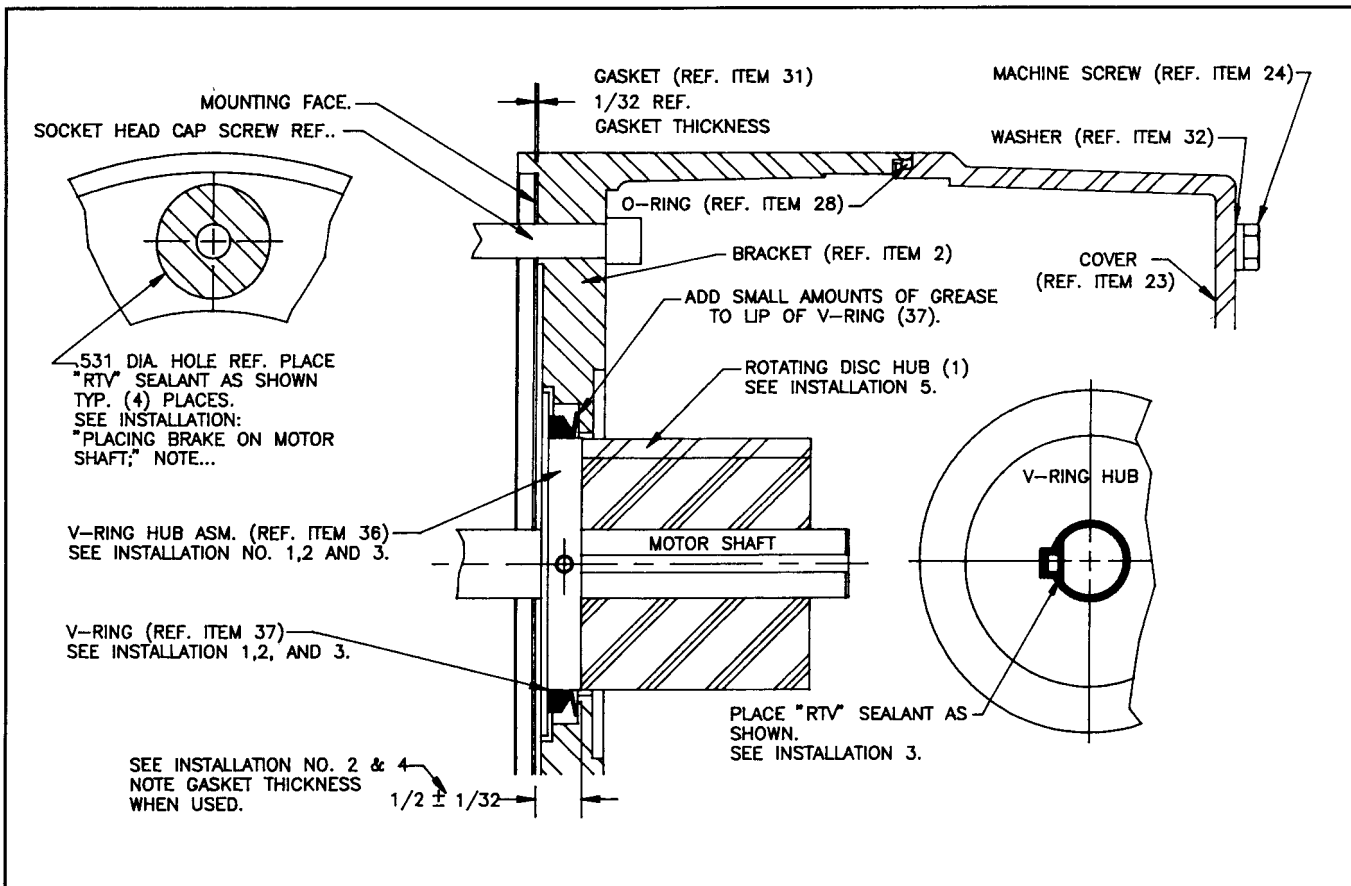

Figure 3
Numbers in parentheses refer to parts illustrated in Figs. 3, 5, 9 and 10.
(Refer to Fig. 3):
1. Remove V-ring (37) from V-ring hub assembly (36).
2. Place V-ring hub assembly (36) onto motor shaft with part number facing away from motor to dimension shown in Fig. 3 ($1/2 \pm 1/32$). Measure from brake mounting face as shown.
4. Replace V-ring (37) onto V-ring hub assembly as shown in Fig. 3. Apply a small amount of grease to lip of V-ring.
5. Place rotating disc hub (1) with key if not already in place, onto motor shaft with part number facing away from motor to dimension shown in Fig. 3 ($1/2 \pm 1/32$). Rotating disc hub will butt against the V-ring hub as shown.
1. Remove machine screws (24), washers (32), and cover (23). Place brake on motor mounting face with gasket (31) in place.
NOTE for model 6-70000-93 and -94 only: If gasket (31) does not make contact around mounting face totally (360°), exclude gasket (31) and place RTV sealant around mounting bolt holes to approximately 2" diam. as shown in Fig. 3.